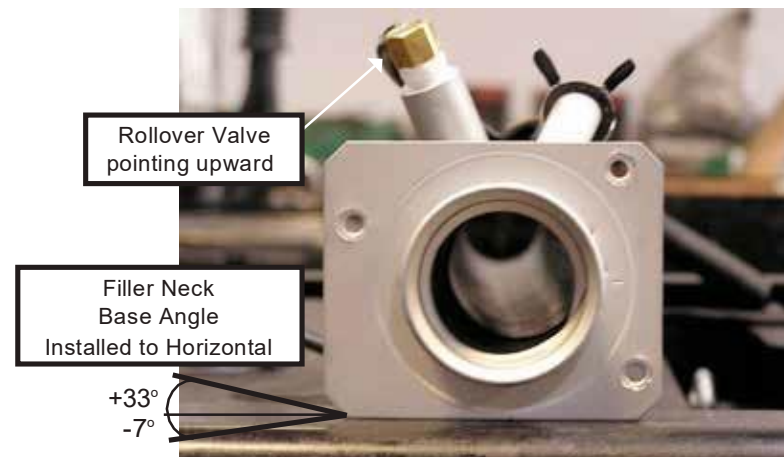

Figure 14.38.2
The fuel filler neck (5) must be installed with the proper orientation on the body. The neck should be installed with the roll-over valve pointing upward, with the bottom edge of the neck oriented parallel to the ground, plus 33 to minus 7 degrees. See **FIGURE 14.38.2** for the proper orientation.